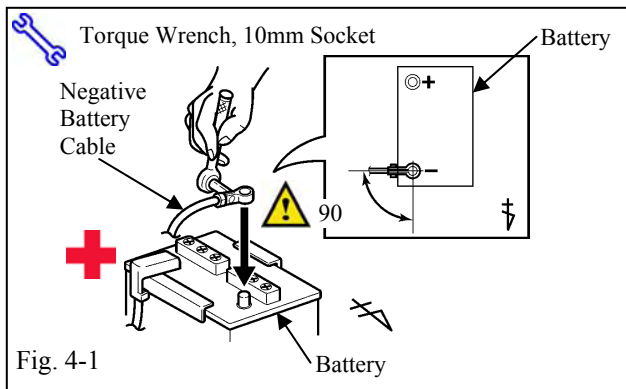

Fig. 4-1
- (a) Reconnect the vehicle's negative battery cable. (Fig. 4-1)
- (1) Tighten the nut to 4.1 N-m (36 lbf-in).
- (2) Do not touch the positive terminal with any tool when replacing the cable.